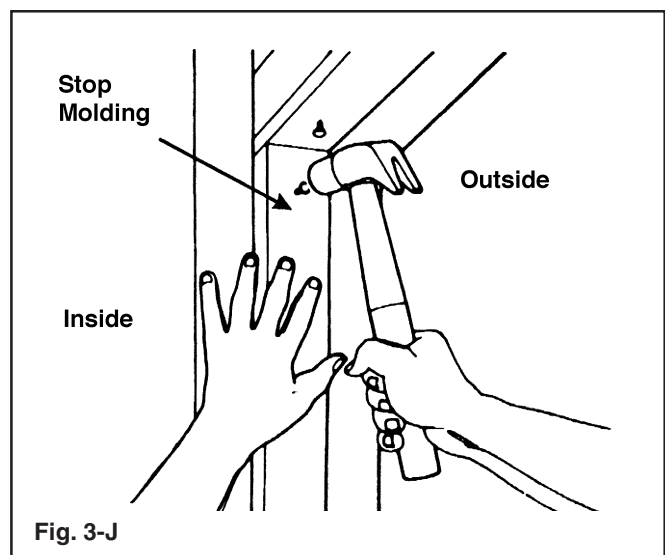

Fig. 3-J
Step 2: Door stop molding for wood jambs should be temporarily nailed to the edges of the jambs flush with the inside. (FIG. 3-J) Since steel jambs require the door to be 2" wider than the opening, no stop molding is required. Stop molding featuring a built in weather seal is offered as an option.
- When only one strut is supplied it is to be mounted on the top section. (FIG. 3-S)
- When an equal number of struts and sections are supplied, install one on each section as illustrated, omitting strut with asterisk. (FIG. 3-S)
- When there is one more strut provided than the number of sections this strut is to be mounted on the bottom section over the bottom bracket as shown in illustration. (FIG. 3-S)
- Top strut is to be mounted with top edge of strut 1/4" down from top of door and above top bracket as illustrated—except on low headroom installations, see page 23. (FIG. 3-S)